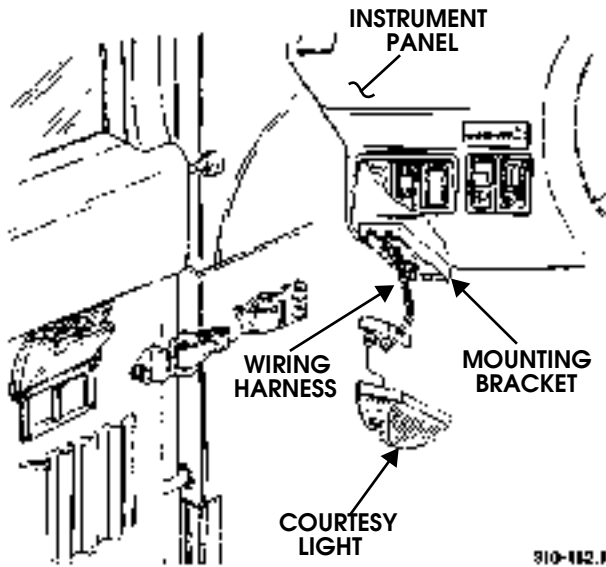

Figure 10-171: Front Driver Side Courtesy Light Replacement
1. Carefully pry courtesy light from mounting bracket (Figures 10-171 and 10-172).
1. Connect courtesy light to wiring harness (Figures 10-171 and 10-172).